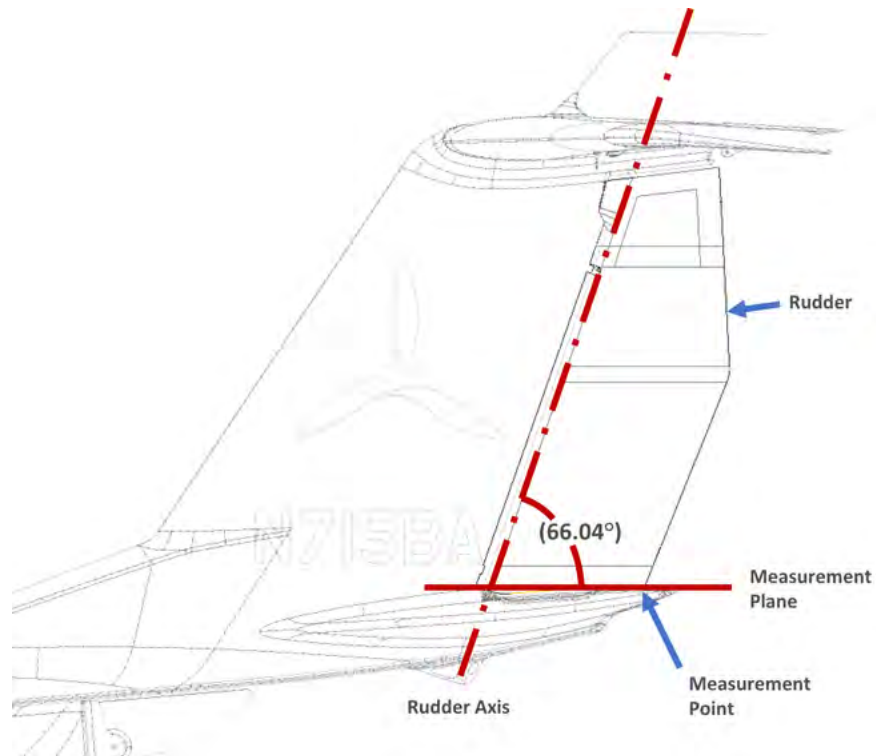

FIGURE 10-61
16. Position the rudder rigging template (ICA013055) or a protractor as shown in Figure 10-61, Center the 0° indication of the rigging template or protractor with respect to the center of the tail section under the rudder.